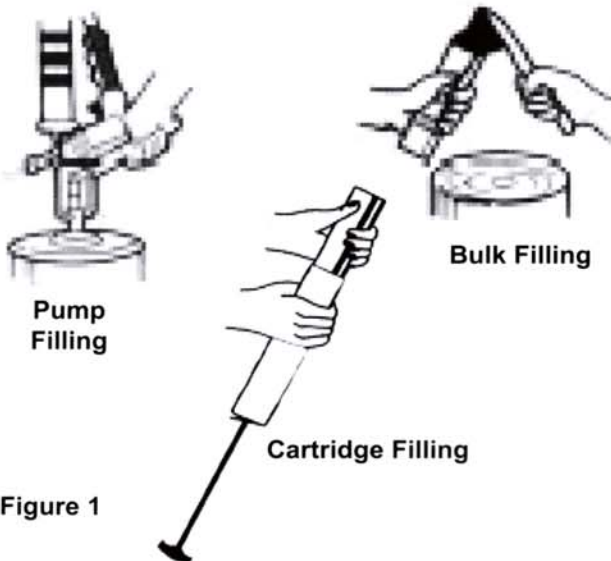

Figure 1
- There are three different ways to load the Grease Gun. See Figure 1, at left.
- Remove the Container Tube (1) from the Head (3) and draw back Plunger Handle (38).
- Press Plunger Release Tab (39). Release Plunger rod and pull down Plunger Handle.